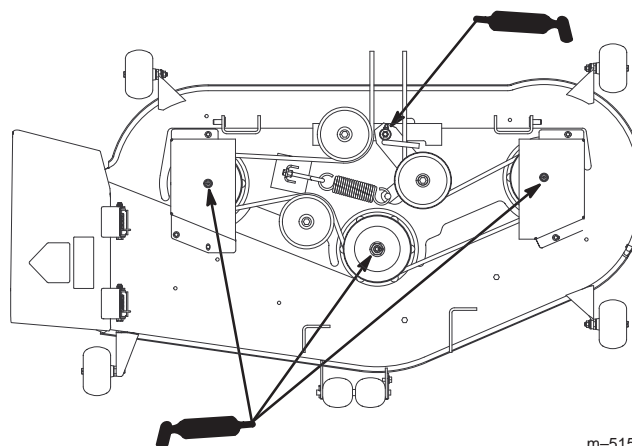

Figure 26
2. Grease the fittings on the three spindle bearings (Fig. 26).
3. Grease the idler pulley pivot (Fig. 26).